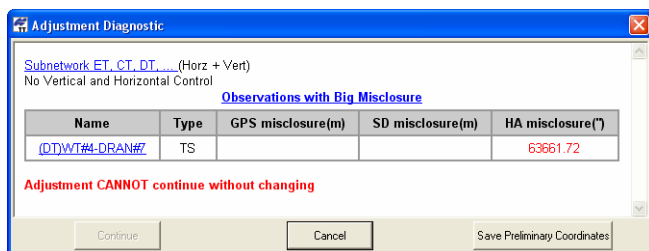

Figure 6-15. Messages After Comparing Observations with Corresponding Points
- For TS observations, if the difference in distances is more than 40 meters or in angles (horizontal or vertical) is more than 25 degrees, then the network adjustment is interrupted and the *Adjustment Diagnostic* dialog box displays (Figure 6-15).
- For GPS observations, if the difference in distances (computed as square root of sum of squared differences in all three coordinates) is more than 1000 meters, then the network adjustment is interrupted and the *Adjustment Diagnostic* dialog box displays (Figure 6-15).